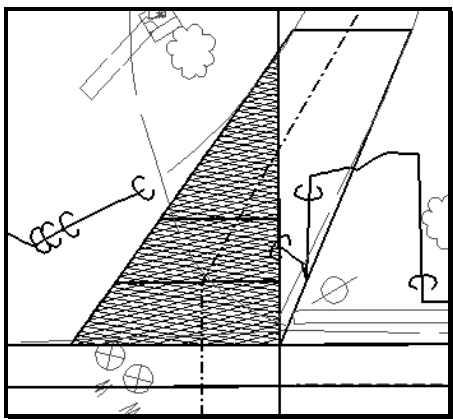

Figure 17-1: Driveway template does not reach the match due to the station of the template drop.
❶ *A template is always dropped at a 90 degree angle to the centerline. If the template can't locate an edge of the driveway or match point (Figure 17-1) due to the angle of the driveway or the range of the station start or stop, the Driveway Design Option 2 method may be the best option for the driveway.*